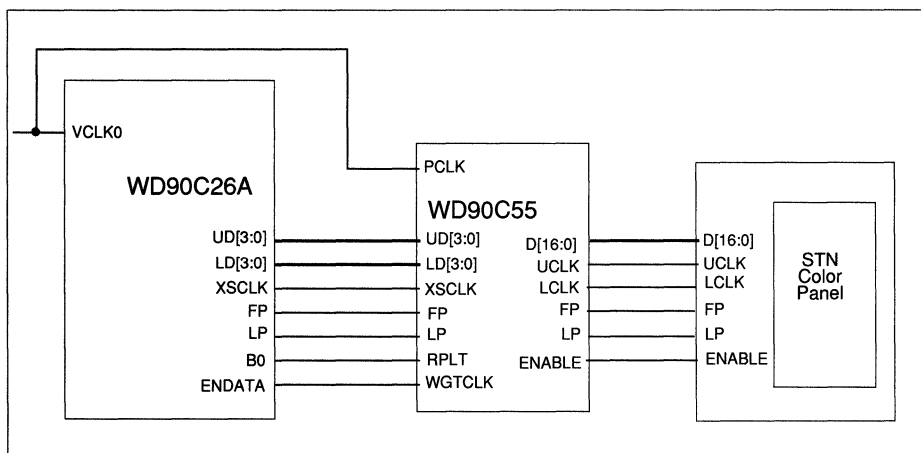

FIGURE 6-22 MULTIPLEXED COLOR STN 8/16 BIT INTERFACE
- Multiplexed Color Stn 8/16 Bit Interface (Figure 6-22)